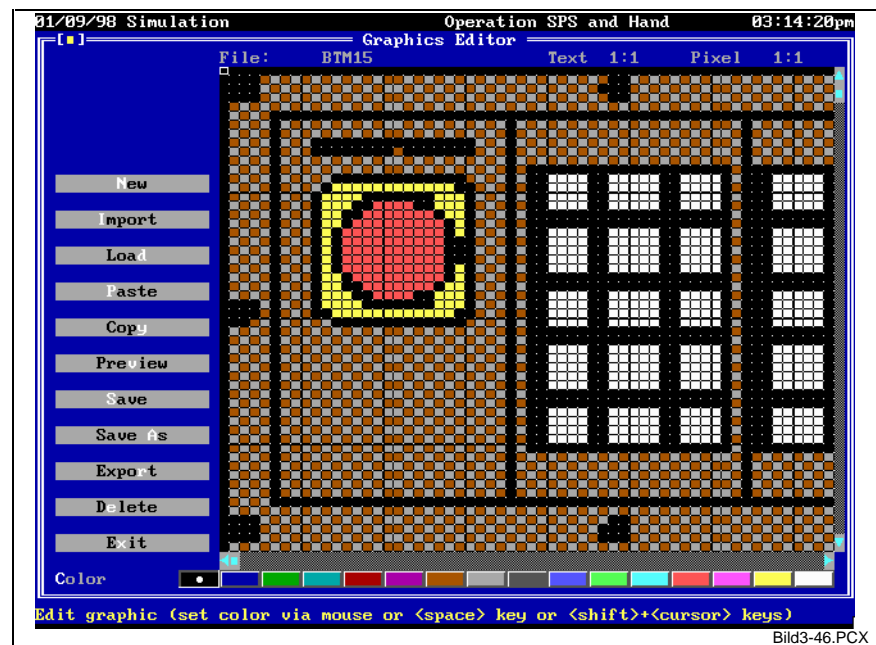

Fig. 3-46: Graphics editor with loaded graphics
Functionality	<p>The editor is mainly used for creating or modifying small graphic elements (e.g. button areas). An external graphics editor should be used for creating complex graphics.</p> <p>The currently loaded or newly created graphic element can be edited on a pixel basis. A cursor appears in the editor field (special frame of a pixel in Fig. 3-46, top left). This cursor can be moved with any command. If the size of the graphics exceeds the size of the editor field, bars appear at the right-hand and bottom margin that show the relative position of the cursor within the graphics. The current cursor position in text and pixel co-ordinates is displayed at the right-hand side, above the editor field.</p> <p>There are three different methods of drawing a pixel in the currently selected color:</p> <ol style="list-style-type: none"> <li>(1) Press the &lt;Space&gt; key at the current cursor position.</li> <li>(2) Click the left-hand mouse button on a pixel. When you hold the mouse button down, pixels will be created along the mouse track as you move the mouse along.</li> <li>(3) Use the &lt;Shift&gt;+&lt;Cursor&gt; keys for drawing a line.</li> </ol> <p>All pixel/character actions refer to the currently selected color. The drawing color can be selected via the color selector switch beneath the editor field.</p> <p>There are no functions for deleting a pixel. Unwanted pixels can be 'cleared' by overtyping them in the required color. The &lt;Alt&gt;+&lt;Backspace&gt; key combination cancels all pixel modifications.</p> <p>Pressing the &lt;Alt&gt;+&lt;Cursor&gt; key combination scrolls the graphics by one pixel in the specified direction. Pixels that drop out at one side are inserted at the other side.</p> <p>The text grid in the editor field is marked by highlighted lines (see Fig. 3-46). This permits specific output fields to be created that can be used for variable output.</p> <p>The preview function (see Chapter 'Graphics Preview', page 3-71), enables the real appearance of the graphics to be verified in its original size.</p>
That function is suitable for swiftly copying repeatedly used elements. Only one LED must really be created in the example of Fig. 3-46. Later it can be inserted at the other points.
In conjunction with inserting graphics (see Chapter 'Graphics Editor', page 3-67), this function is suitable for copying repeatedly used elements within the graphics. This function can also be used for copying small sections from large graphics, editing those segments, and outputting them as variable value in the '2 graphics' format (see Chapter 'Display Elements', page 3-14). This method can be used for animating all LEDs in the example of Fig. 3-46. Thus, the variable part of the graphics remains very small, yielding a noticeable increase in the speed of the dynamic output.